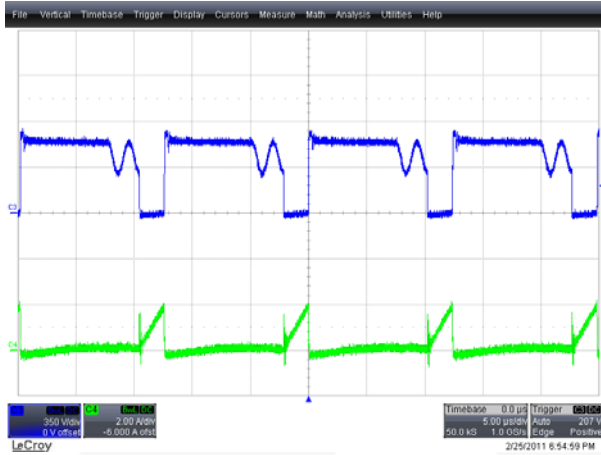
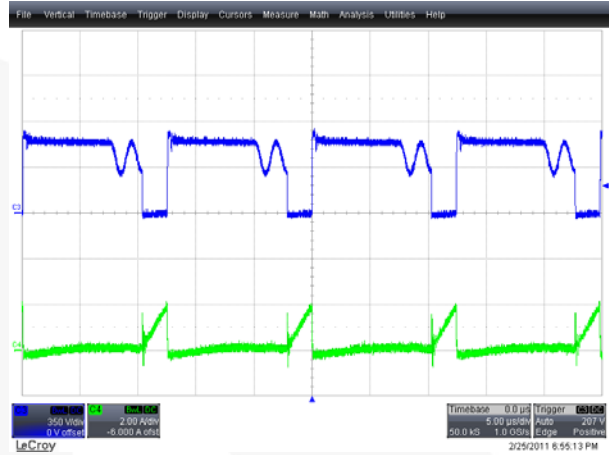

Figure 39. 90 V_{AC} / 60 Hz, CH3 (Blue): V_{DS(QR)}, CH4 (Green): I_{DS(QR)}
Figure 40. 277 V_{AC} / 60 Hz, CH3 (Blue): V_{DS(QR)}, CH4 (Green): I_{DS(QR)}
Figure 39 and Figure 40 show the V_{DS} and I_{DS} waveforms of the MOSFET (QR) at different input voltage conditions.